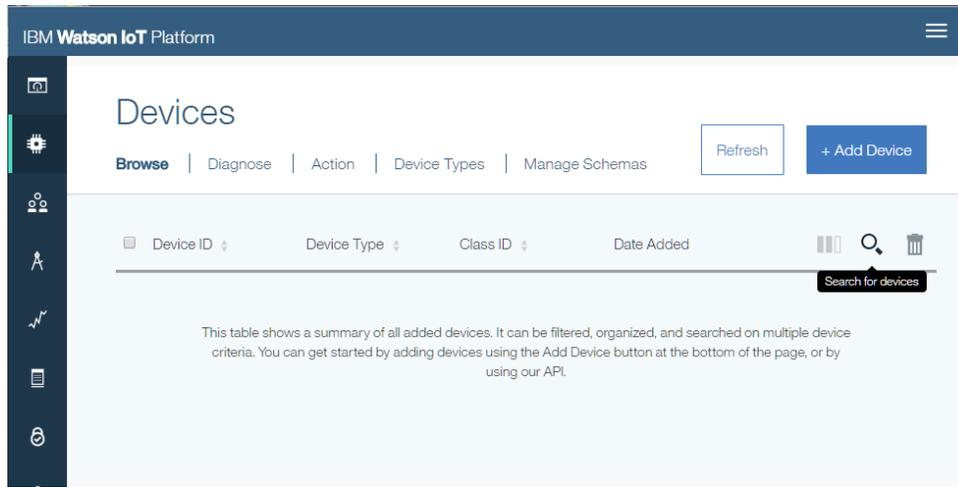

Figure 18. Devices Menu
6. Hover the mouse over the left side menu and select **Devices**. Click **+ Add Device**, as shown in Figure 18.